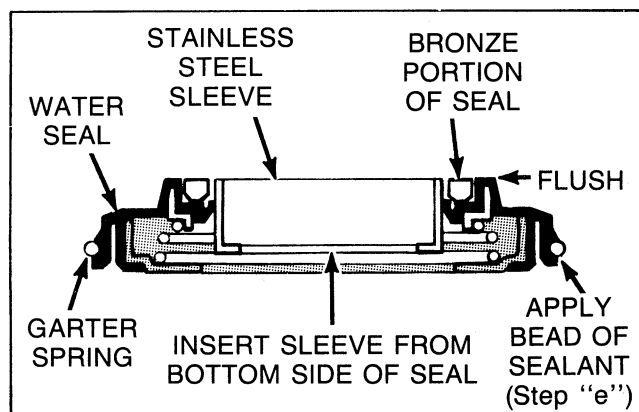

Figure 31
- e. Carefully apply a small amount of No. 27615 Sealant (supplied in kit) around the outer edge of seal and tub. (The area located just below the garter spring, *Figure 31*).